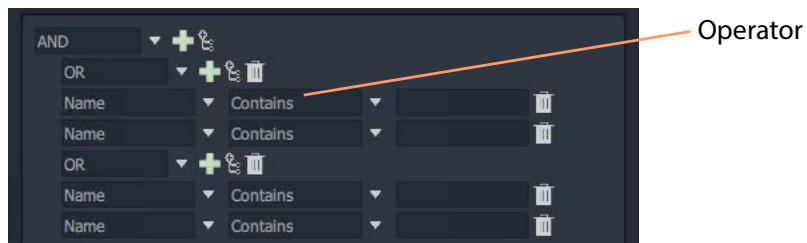

Fig. 13-61: Second Expression Item Added
- 8 Add a second expression item under the new OR item. See Figure 13-61.